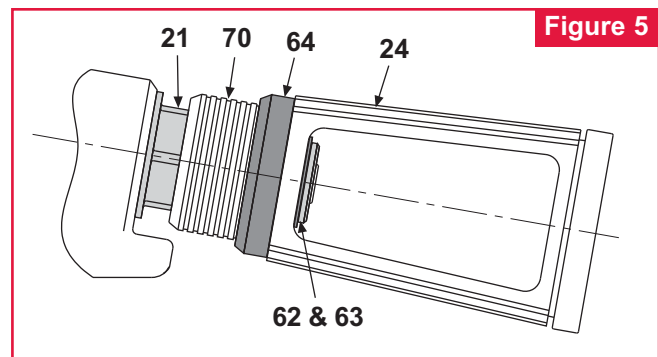

Figure 5
2025V & 2025LV (Figures 5, 6 & 15)
1. By reaching through the window of Pintail Bottle (24) remove Retaining Ring (62) and Washer (63) (Fig. 5).
10. Slide Spacer (22) and Spring (19) into End Cap (21) and then thread End Cap assembly into rear of Head. **NOTE: For 2025V please reference Assembly of Pintail Bottle and Vacuum System procedure. (Refer to Figures 5, 6 & 10)**
5. Position Adapter (64) and pintail bottle (24) on End Cap (21) (Fig. 5 & 15).
6. By reaching through the window of the Pintail Bottle (24), install Washer (63) and Retaining Ring (62) as shown in (Fig. 5).